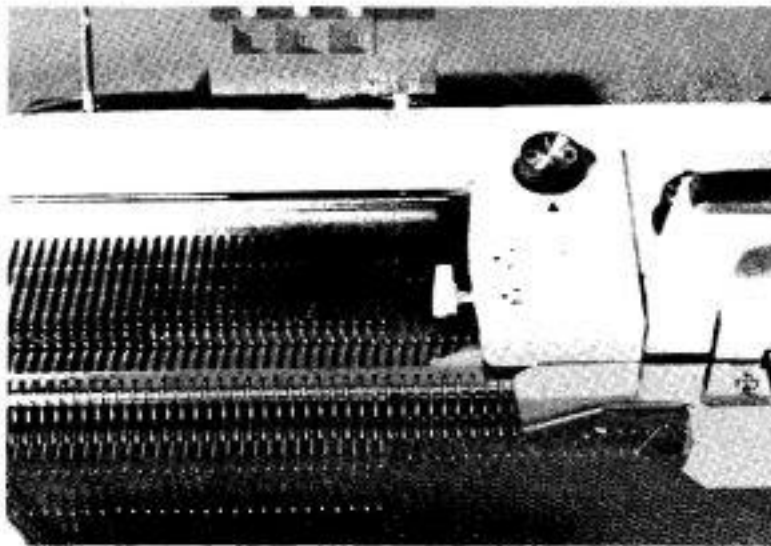

Fig. 88
Position 1. With the lever in this setting, needles in Position (E) will not knit regardless of the position of the Pattern Control Knob, but needles in Position (D) will knit also regardless of the position of the Pattern Control Knob. Therefore, this setting is used for 'turning', 'part knitting' etc. (Fig. 88)